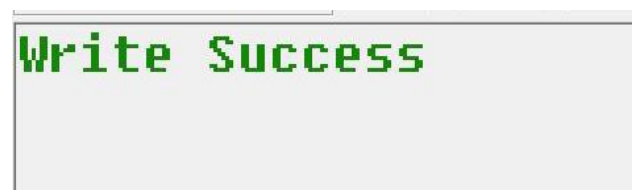

Figure 11
3.4 After selecting the configuration file, wait until the prompt "Write Success" is displayed, indicating that the programming of the module is complete (as shown in Figure 11)